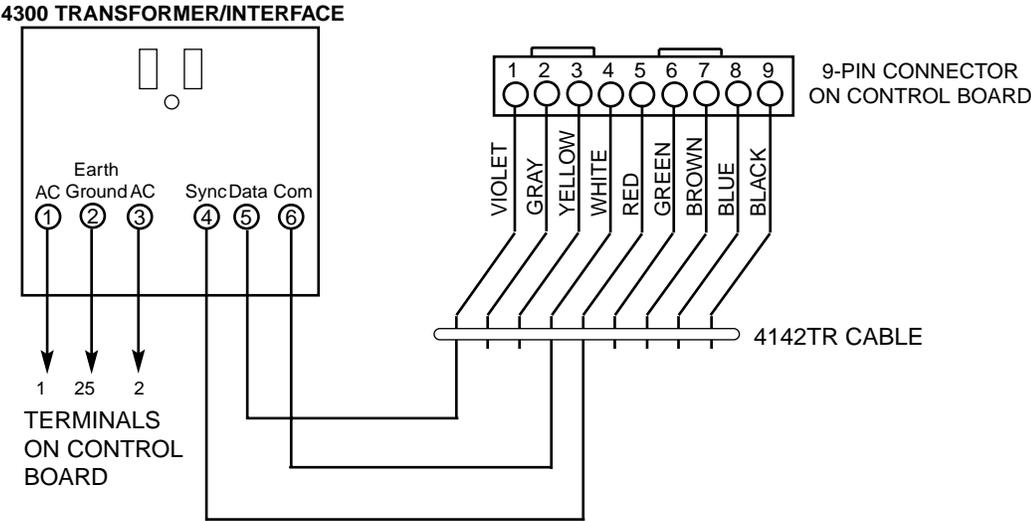

Figure 5. Connections of 4300 Transformer to the Control Board
1. Connect terminals 1, 3 (AC), and 2 (Ground) to control board terminals 1, 2, and 25, respectively (see Figure 5). See table below to determine wire gauge to use.
2. Wire the other three terminals (Sync, Data, Com) on the 4300 Transformer. Wires from these terminals must be connected to a 9-pin connector on the control board (using a 4142TR Cable supplied with the 4300 Transformer), as shown in Figure 5. These particular wires can be 24-gauge or larger, and can be run along with the AC and ground wires to the control panel.